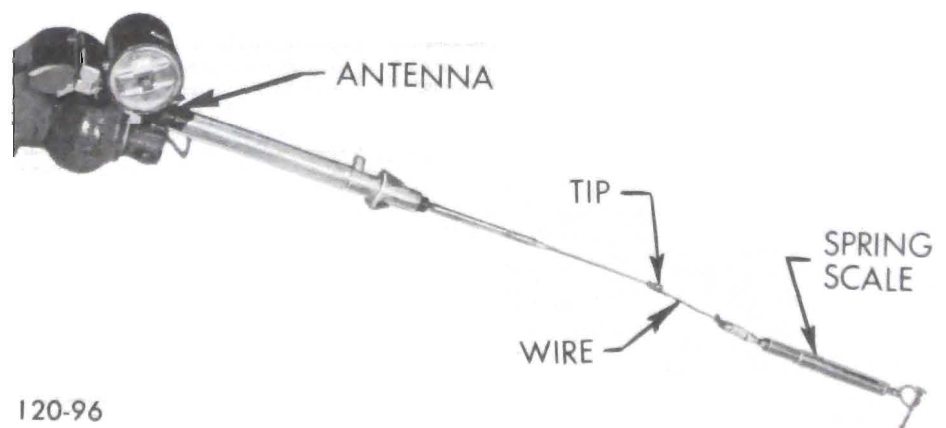

Figure 129-19 - Antenna Adjustment Test
4. Connect one end of a wire securely to the mast just below the tip and the other end to a 25 lb. capacity spring scale. Secure the spring scale to the bench so that the centerline of the scale is in line with that of the mast assembly. See Figure 129-19.